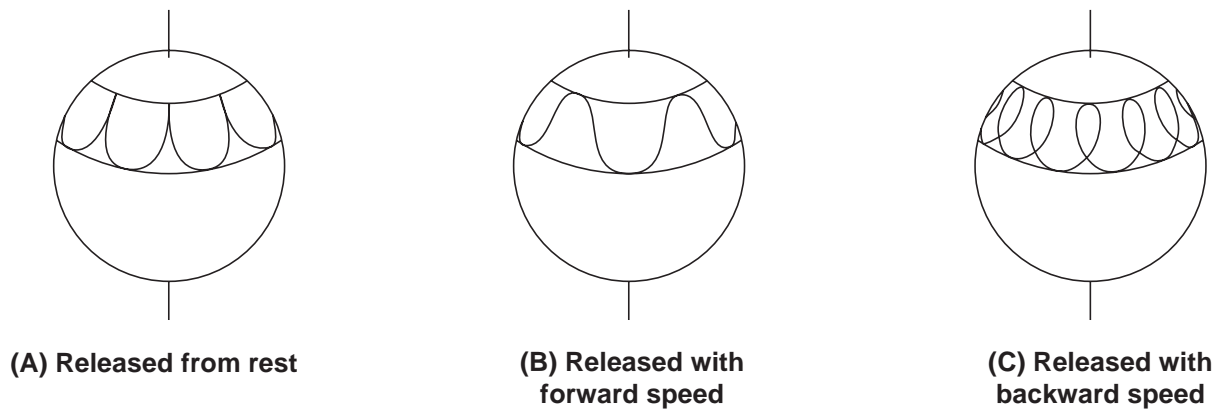

Figure 4.2: Patterns of Resultant Nutations
- ④ The resulting nutation will look like pattern (A) in Figure 4.2.
- ⑤ Stop the precession and spin the disk again. Release the gyroscope from the same angle but give it an initial push in the direction of precession. The resulting nutation will look like pattern (B) in Figure 4.2.
- ⑥ Stop the precession and spin the disk again. Release the gyroscope from the same angle but give it an initial push in the direction opposite to the precession. The resulting nutation will look like pattern (C) in Figure 4.2.
- ⑦ Spin the disk at a different speed and check the effect this has on the speed of the nutation.
- ⑧ Release the disk from a different angle and check the effect this has on the nutation.